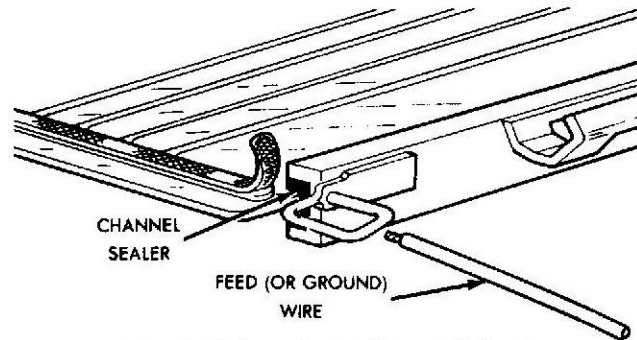

Fig. 2 Trimming Channel Sealer
(3) Remove any excess channel sealer that protrudes from end of channel (see fig. 2).